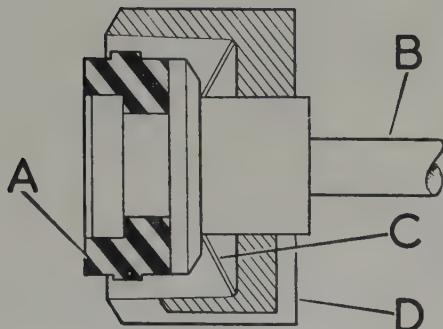

Fig. 9.26. Sectional view of Girling master cylinder valve
- Fit a new valve seal "F" the correct way round so that the flat side is correctly seating on the valve head "G". Fig. 9.26 shows this in detail.